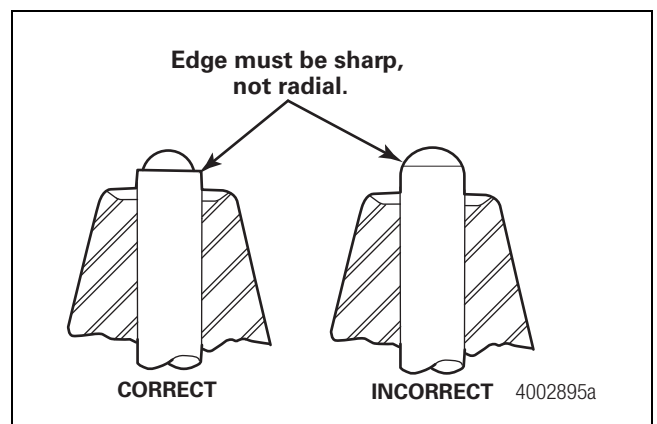

Figure 8.5
1. Inspect the edge of the anvil pin. The corner must be sharp, not radial. Figure 8.5.